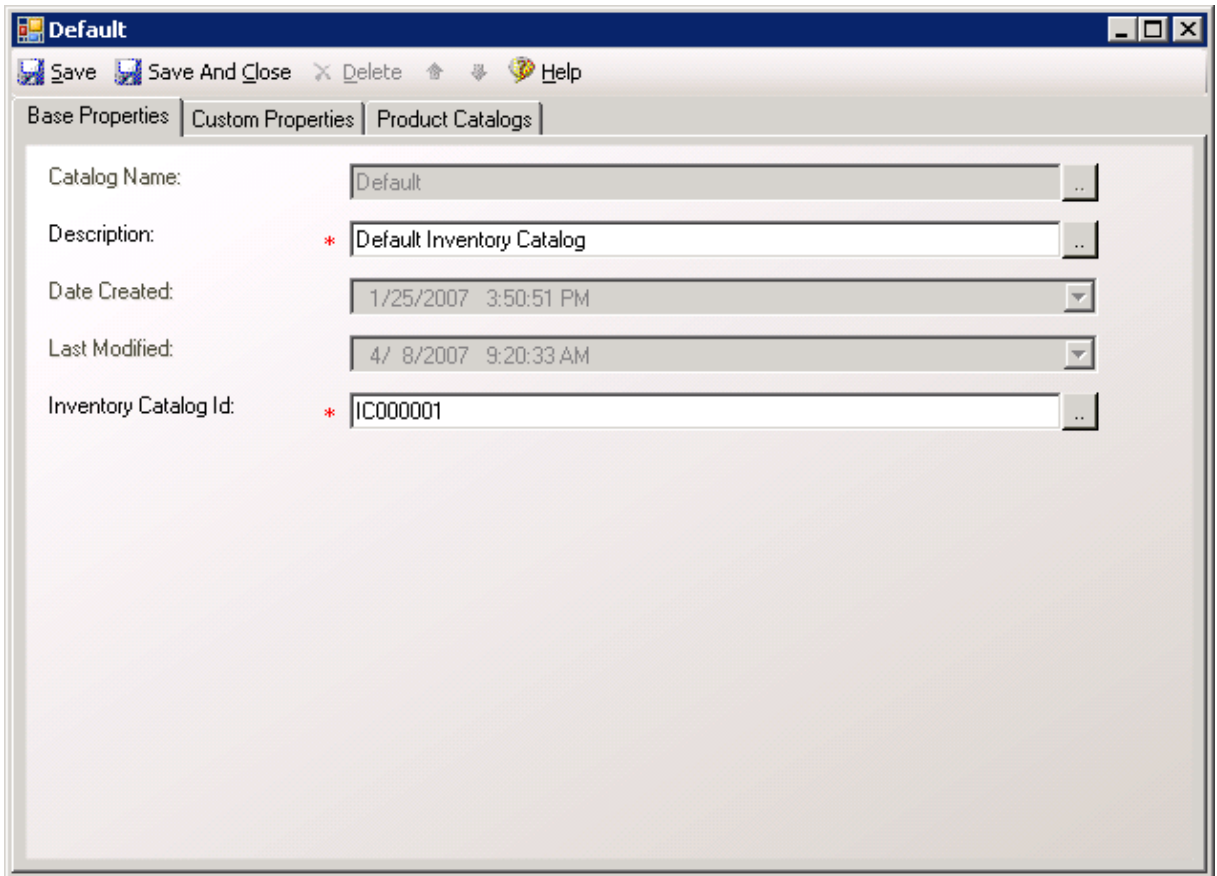

Figure 4-7
4. The Base Properties tab is selected by default (Figure 4-7). Since we added the Inventory Catalog Id property definition to the Inventory Catalog Metadata, and it is a required property, you must specify a value. Note that this property is on the base properties tab, rather than the custom properties tab. This is because the Display as Base Property value was set to True on the property definition. If it had been set to False, this property would be on the custom properties tab.